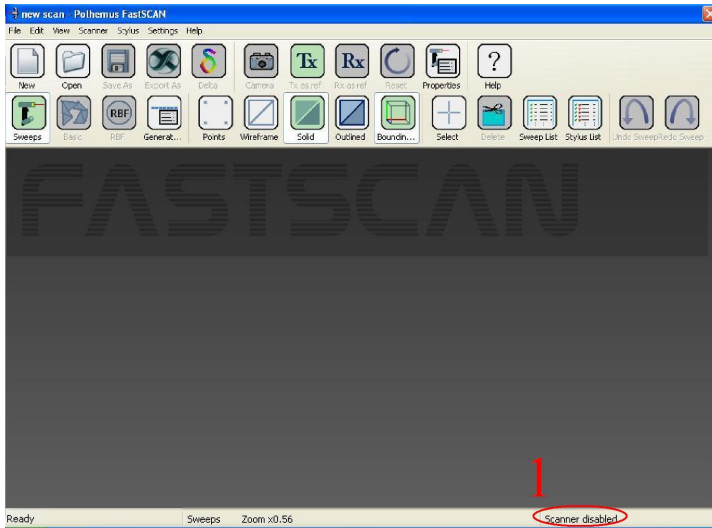

Figure 3: The *FastSCAN* startup screen.
3. Start *FastSCAN*[™] by double clicking on its desktop icon. The *FastSCAN*[™] startup screen (Figure 3) will appear.
- The status indicator at the bottom right of the screen (labeled **1** in Figure 3) should change from **Scanner disabled** to **Scanner initializing...** After approximately 10 seconds this should change to **Scanner on-line**, indicating that the system has initialized.